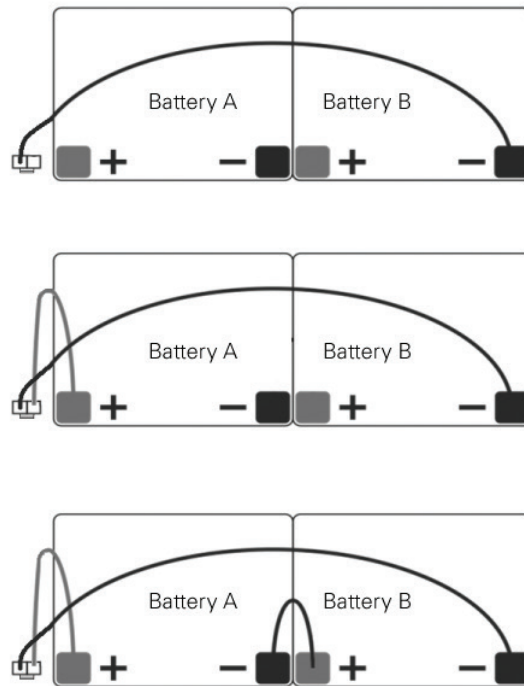

Figure 23. Battery Connection
1. Connect the **BLACK** battery wire to the **BLACK (-)** battery terminal of Battery B (Figure 23)